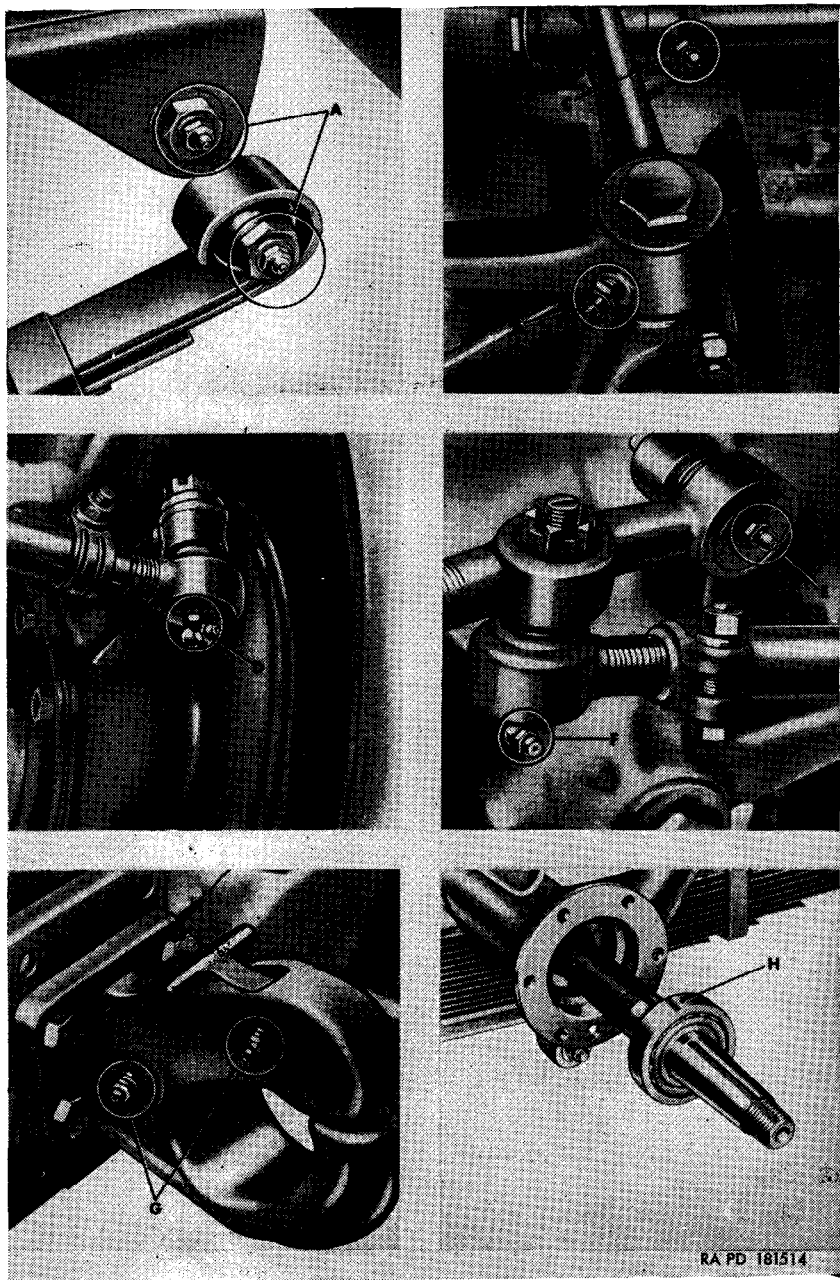

Figure 31. Localized lubrication points A through H.
- (1) Lubrication fittings, grease cups, oilers and oilholes are shown in figures 31 through 34 and are referenced to the lubrication chart. Wipe these devices and the surrounding surfaces clean before and after lubricant is applied.
- (2) A  $\frac{3}{4}$ -inch red circle should be painted around all lubricating fittings and oilholes.
- (3) Clean and lubricate unsealed bearings as shown below.